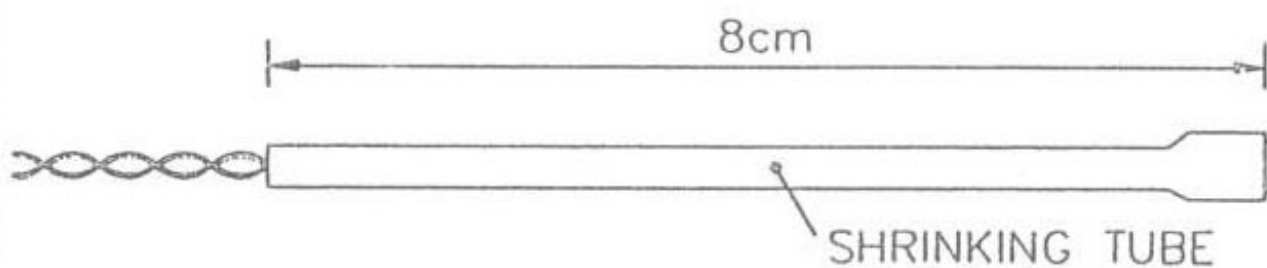

FIG.1.4
- Slide the shrinking tube over the copper wires and OVER the sensor see fig. 1.4 .